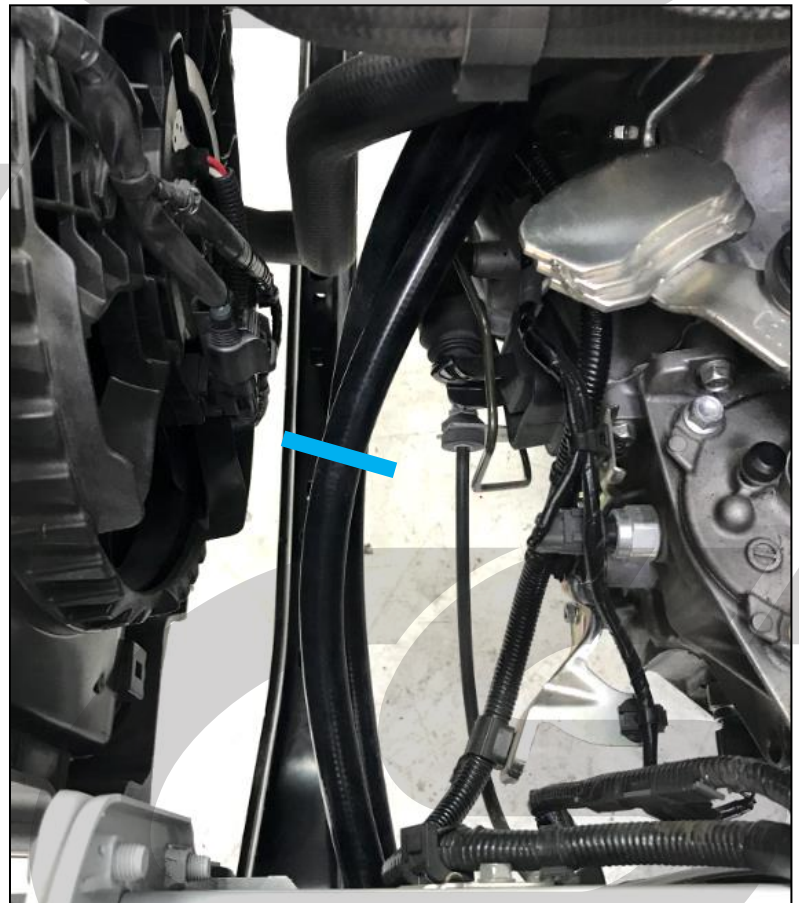

Figure 3c
g) Using a razor knife or large scissors, cut the hose that connects the PCV valve to the lower port of the OCC in the approximate location shown with blue line in **Figure 3c**.